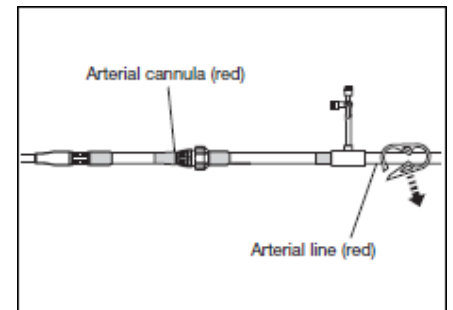

Figure 20
3. Gradually release the clamp on the arterial line (red) to start circulation (Figure 20).